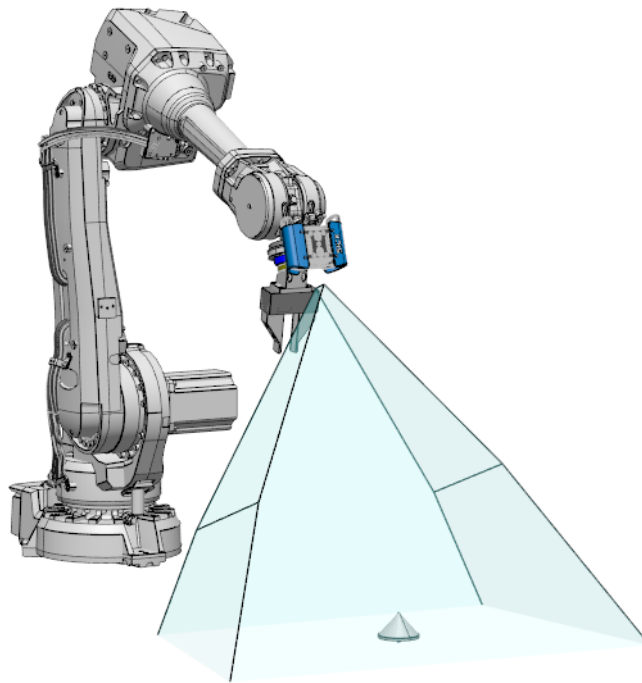
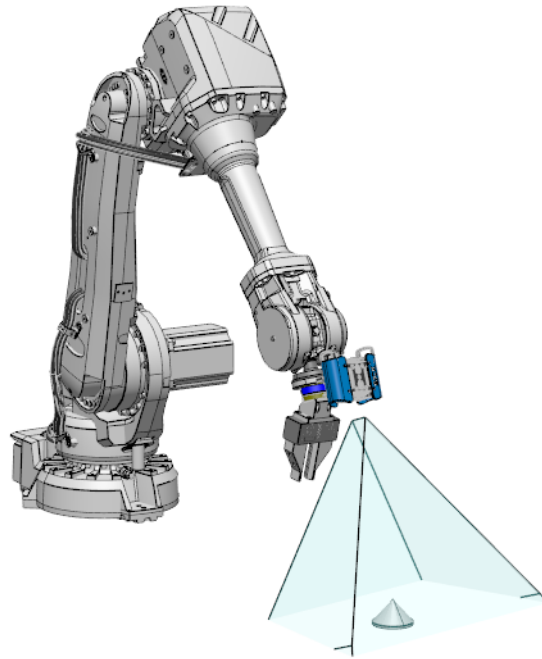
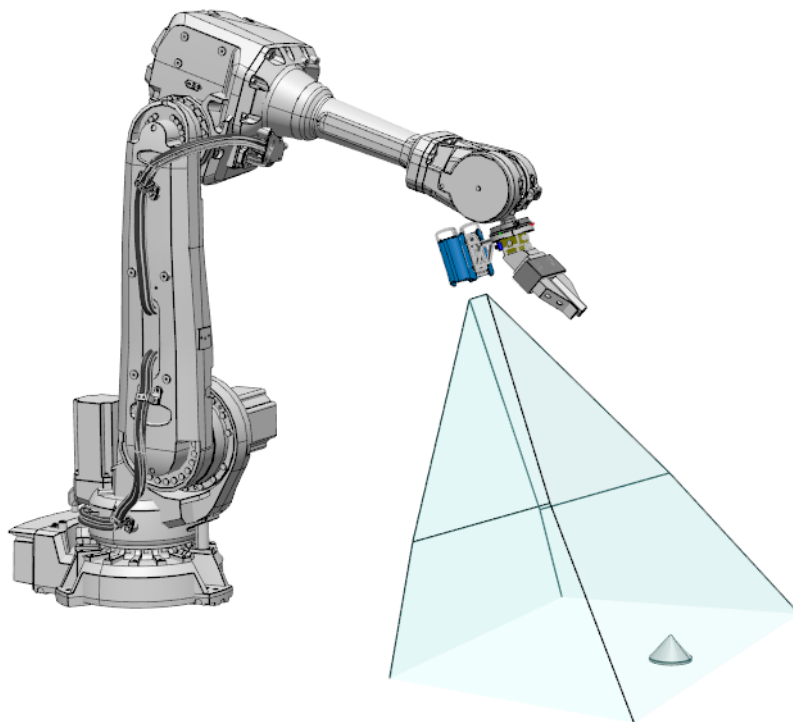

Figure 44: Robot mounted alignment point example
Figure 45: Robot mounted alignment, z-axis position
Figure 46: Robot mounted alignment, z-axis rotation
- Position on the z-axis to the alignment target (figure 45, repositioned from figure 44)
- Rotation on the z-axis to the alignment target (figure 46, rotated from figure 44)